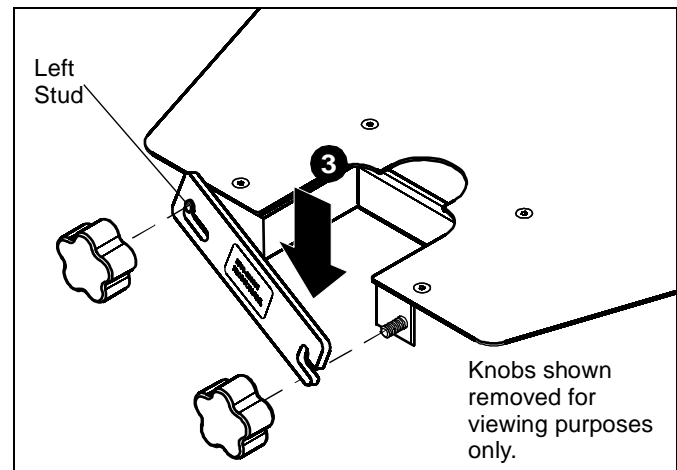

Figure 4
3. Let the bracket drop down and hang from the shelf's left stud. (See Figure 4)